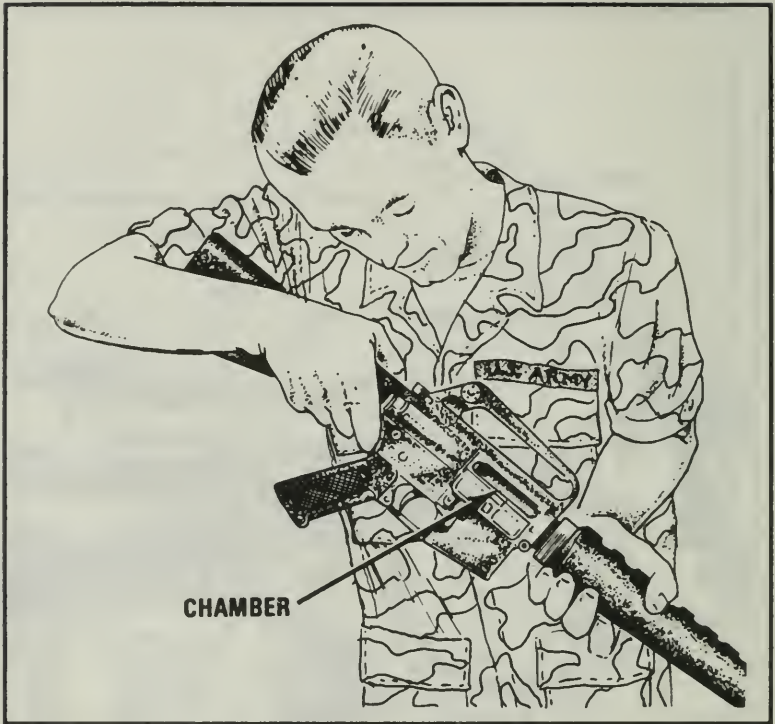

Figure 51. Inspecting the chamber.
c. Look in the receiver and chamber to ensure these areas contain no ammunition (Figure 51).